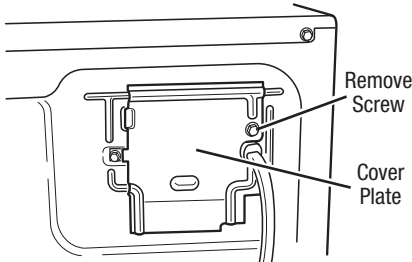

Figure 2. Remove the cover plate.
2. Remove the cover plate from the top right corner of the back of the dryer. See figure 2.
2. Remove the cover plate from the top right corner of the back of the dryer. See figure 2, page 12.